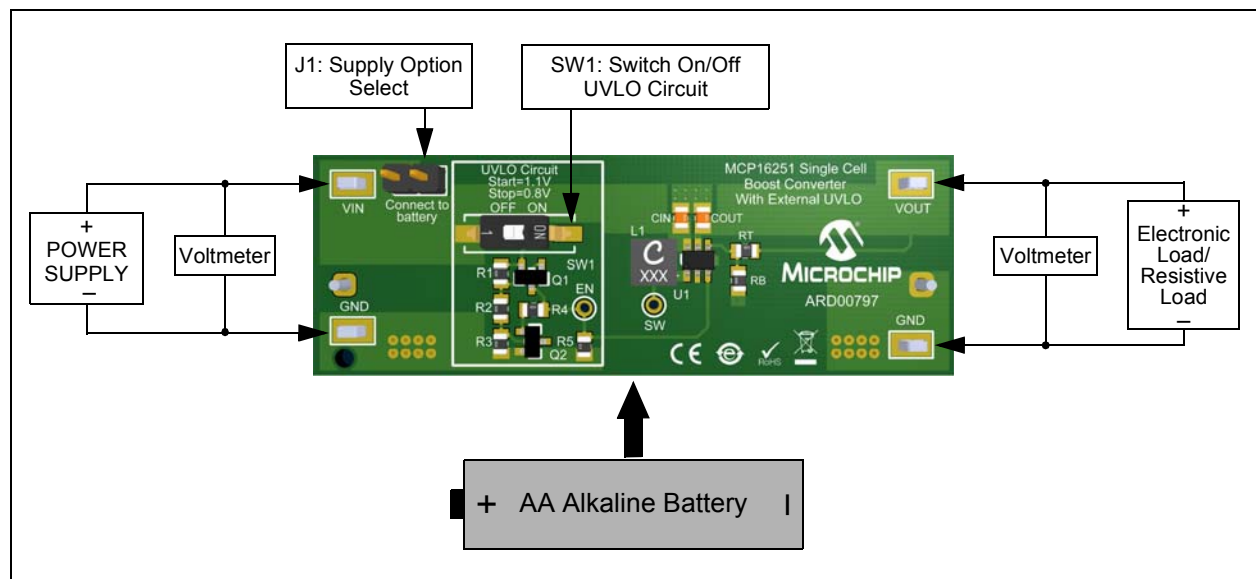

FIGURE 2-3: MCP16251 One-Cell Boost Converter with External UVLO Circuit Setup.
3. Connect a resistive or an electronic load and a voltmeter between the V_{OUT} and GND test pads, as shown in Figure 2-3.